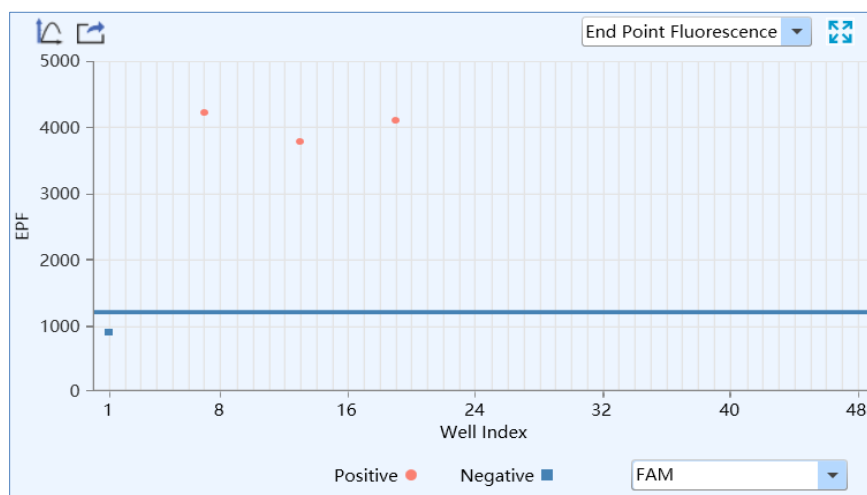

Figure D-18.1. End Point Fluorescence Analysis Interface - End Point Fluorescence Scatter Plot
1. *End Point Fluorescence Scatter Plot*: display the scatter plot of fluorescence intensities measured at end the point of amplification plateau phase, as shown in figure D-18.1.